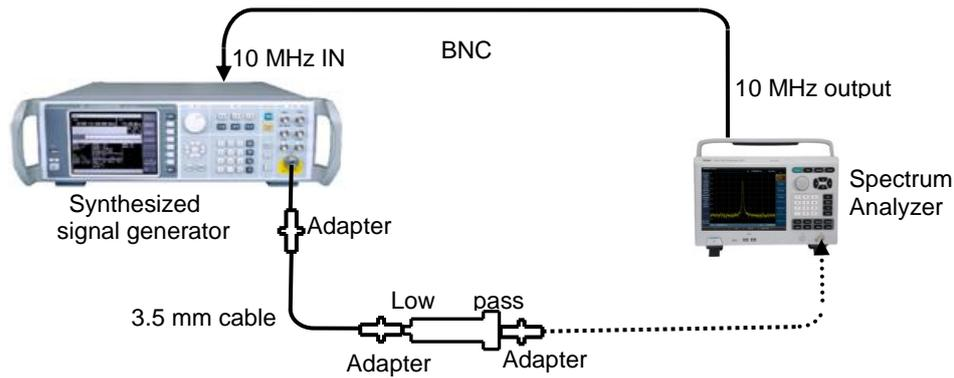

Fig 11-9 Second harmonic distortion testing setup
1) Connect the test instrument as shown in Fig 11-9. The spectrum analyzer provides a 10 MHz reference frequency for the synthesized signal generator and the 1 GHz low pass filter is used.
7) Connect the test instrument as shown in Fig 11-9 and use a 6.8 GHz low pass filter.
- 13) Connect the test instrument as shown in Fig 11-9 and use a 18 GHz low pass filter.